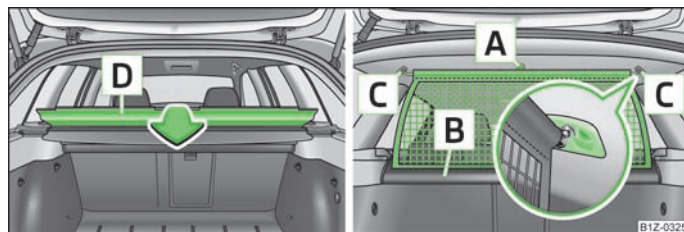
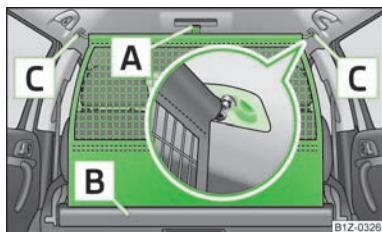

Fig. 59 Folding down the storage compartment cover/pulling out the net partition
Fig. 60
- Ensure that the cross rod is inserted into the mounts **C** » Fig. 59 or » Fig. 60 in the front position!
- Fold down the storage compartment cover **D** » Fig. 59 behind the rear seats.
- > Pull the net partition by the bracket **A** » Fig. 60 out of the housing **B**.
- > First pull the cross rod back slightly on the one side and then on the other side and remove it from the mounts **C** » Fig. 60.